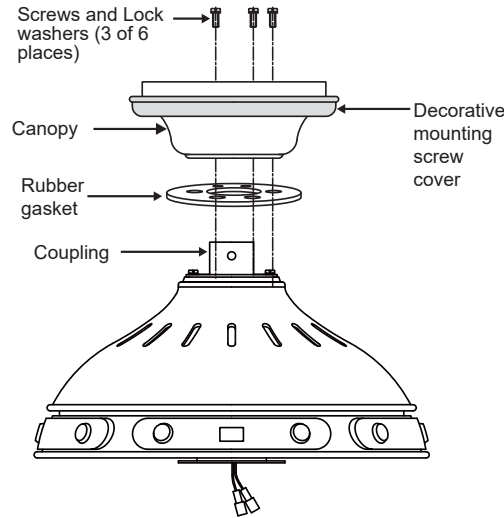

Fig. 9
Step 1. Remove three of the six screws and lock washers (every other one) from the collar on top of the motor assembly. Place the ceiling fan canopy and rubber gasket over the collar and align the mounting holes with the holes in the collar. Attach the canopy and rubber gasket with the three screws and lock washers previously removed. (**Fig. 9**)